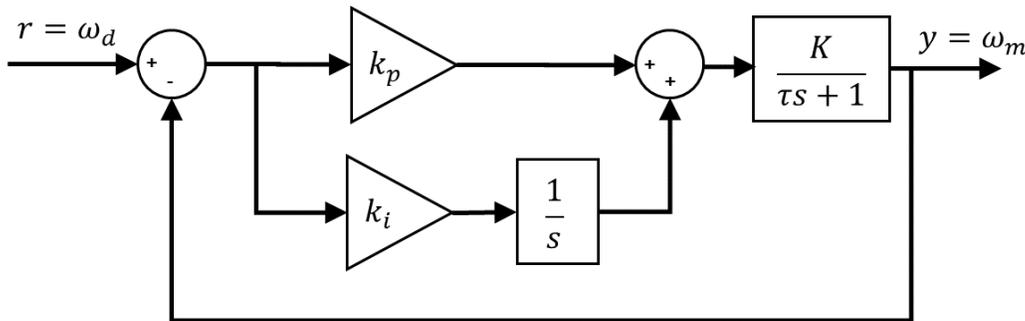
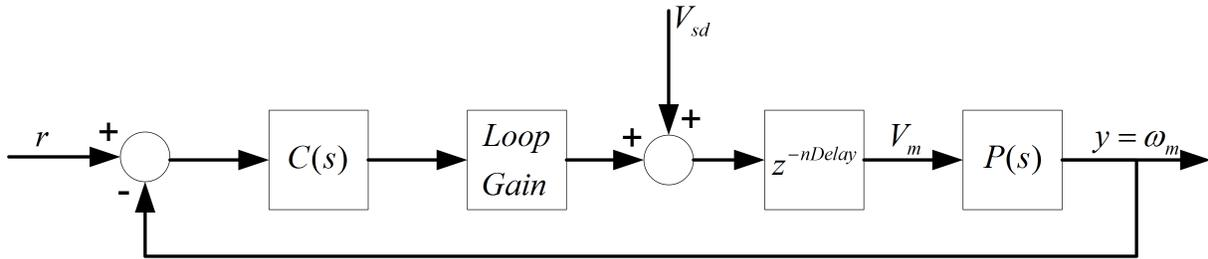
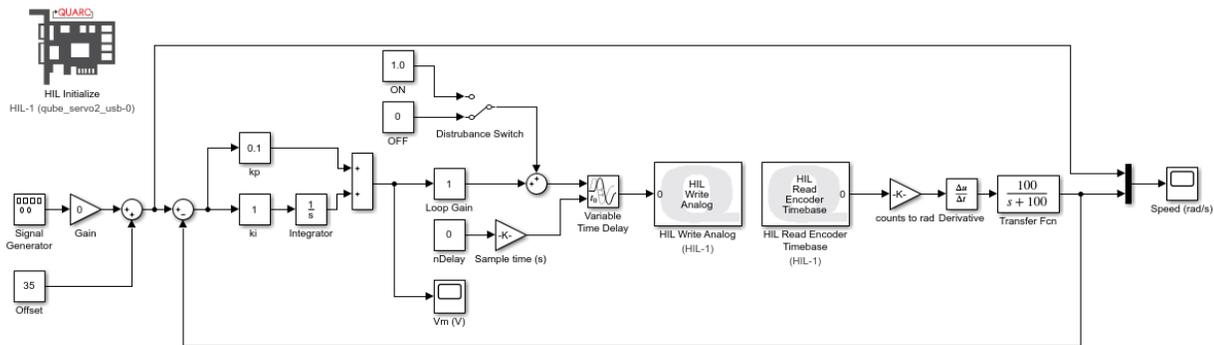

Figure 1.2: Block diagram of PI control for speed control
Figure 2.1: PI speed control with *Loop Gain* and *Sample Delay* disturbances
Figure 2.2: Simulink/QUARC model that implements PI speed control with *Loop Gain* and *Sample Delay* effects
To control the speed of the servo, we will implement a PI control. The block diagram of a generic PI controller in Figure 1.2. The ideal PI controller with proportional gain k_p and an integral gain k_i can be expressed mathematically as
To assess the robustness of the control system, the system will be subjected to a *Loop Gain* and *nDelay* disturbances as illustrated in Figure 2.1. The *Loop Gain* parameter is a pure gain and is used to estimate the system gain margin. The *nDelay* parameter is an integer number of sample periods and is used to determine the extra time delay needed to make the system unstable.
Using the **QUARC**[®] controller designed in the Stability Analysis laboratory experiment, build the Simulink model shown in Figure 2.2. This implements the PI control loop shown in Figure 1.2 with the added the *Loop Gain* and *Sample Delay* effects shown in Figure 2.1. The Variable Time Delay block is used to add a time delay to the control signal. The *nDelay* sample delay is converted into time delay by multiplying it by the controller sampling interface (done using the *Sample time (s)* gain block and the `qc_get_step_size` QUARC command).
3. Run the model shown in Figure 2.2 using the *Speed Lab Design (SLD)* PI gains. Make sure the model step size is set to run at 0.01 seconds. Set the *Amplitude* = 0 and the *Offset* = 35 rad/s. Slowly increase the *Loop*
- Run the model shown in Figure 2.2 using the MSD PI gains found. Similarly as done with the SLD gains, find the *Loop Gain* and *nDelay* required to make the system go into stable / non-decaying oscillations.